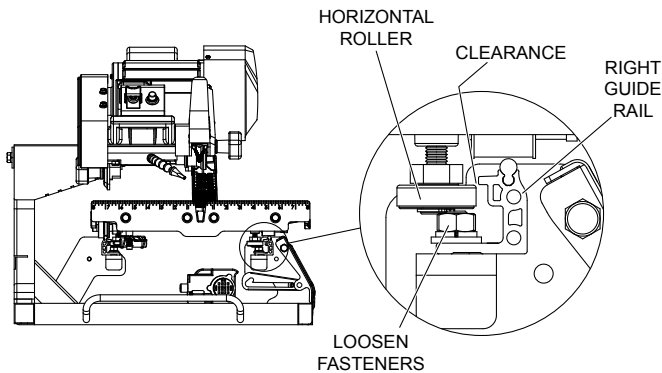

Figure 25. Roller Clearance
1. Use the universal wrench to loosen (but not remove) the fasteners from either end of both guide rails. Move each rail away from the other, so that the horizontal rollers are clear of the right guide rail. See Figure 25.